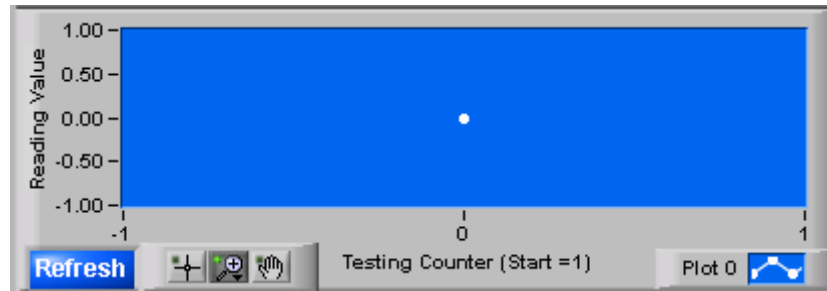

Figure 4-10 Simulation Output Window
- Simulation Output Window: The main function of this window is to turn the measured readings in LC/ IR test mode accordingly into graph for changes observation with the magnifier and movement buttons . The curve data is updated after accumulated 10000 entries of data as Figure 4-10 shows. The first reading begins to draw curve from the horizontal coordinate 1 (Start = 1). Click  can set the attributes of pattern, thickness, color, etc for curve as Figure 4-10 shows.